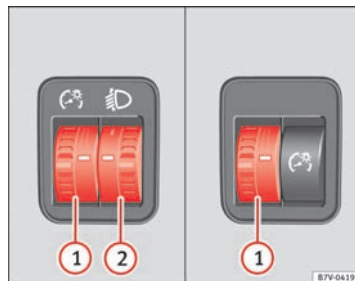

Fig. 63 Next to the steering wheel: instrument and switch lighting control ① and headlight range control ②
① Instrument and switch lighting
When the headlights are switched on, the brightness of the instruments and switch lighting can be regulated to suit your requirements by turning the switch ⇒ Fig. 63 ①.
② Headlight range control
The headlight range control ⇒ Fig. 63 ② is modified according to the value of the headlight beam and the vehicle load status. This offers the driver optimum visibility and the headlights do not dazzle oncoming drivers ⇒ .
To reset, turn switch ⇒ Fig. 63 ②: